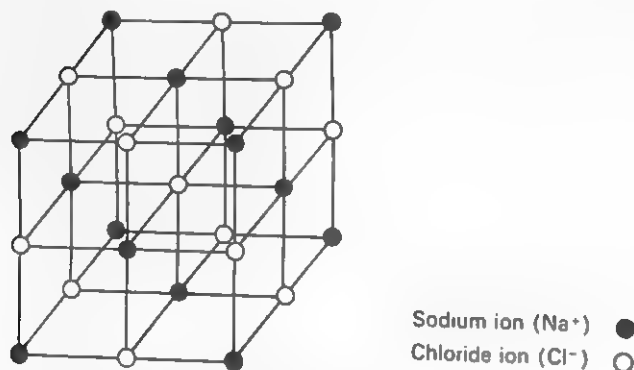

fig. 3 A sodium chloride crystal lattice
- 4 Electrovalent compounds are *not* composed of molecules. The ions present are to a certain extent independent of each other and are arranged in a network or crystal lattice, held together by the attraction between unlike charges. The ions can only vibrate and cannot move freely in this lattice (fig. 3). In order that the ions may take part in chemical reactions they must be freed, and this is done by dissolving the substance in water or by melting it.